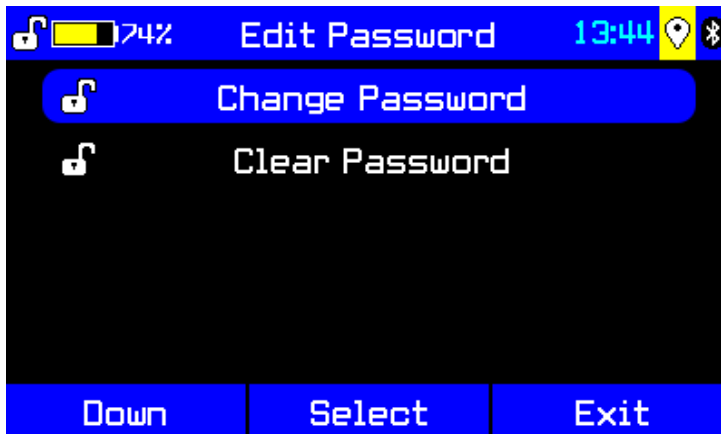

Figure 6-50: Edit Password menu
The **Change Password** command (Figure 6-50) lets you enter a new password consisting of seven key-strokes: different configurations of the direction keys, Left (L), Middle (M), and Right (R).